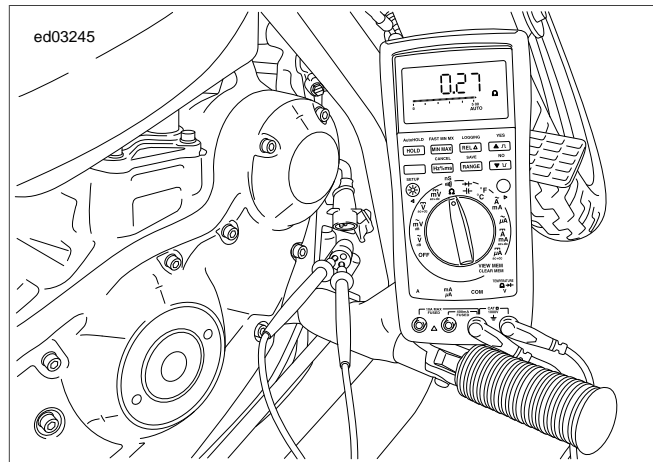

Figure 3-13. Check for Stator Resistance (Typical)
4. See Figure 3-13. Remove ground lead. Measure resistance across stator [47B] terminals 1-2.